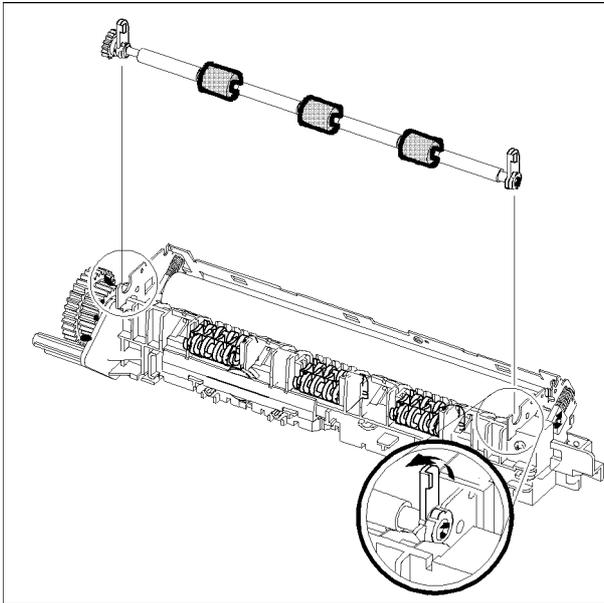

Figure 4
5. Unlatch the exit roller holders in the direction of the arrows. Remove the exit roller, Figure 4.